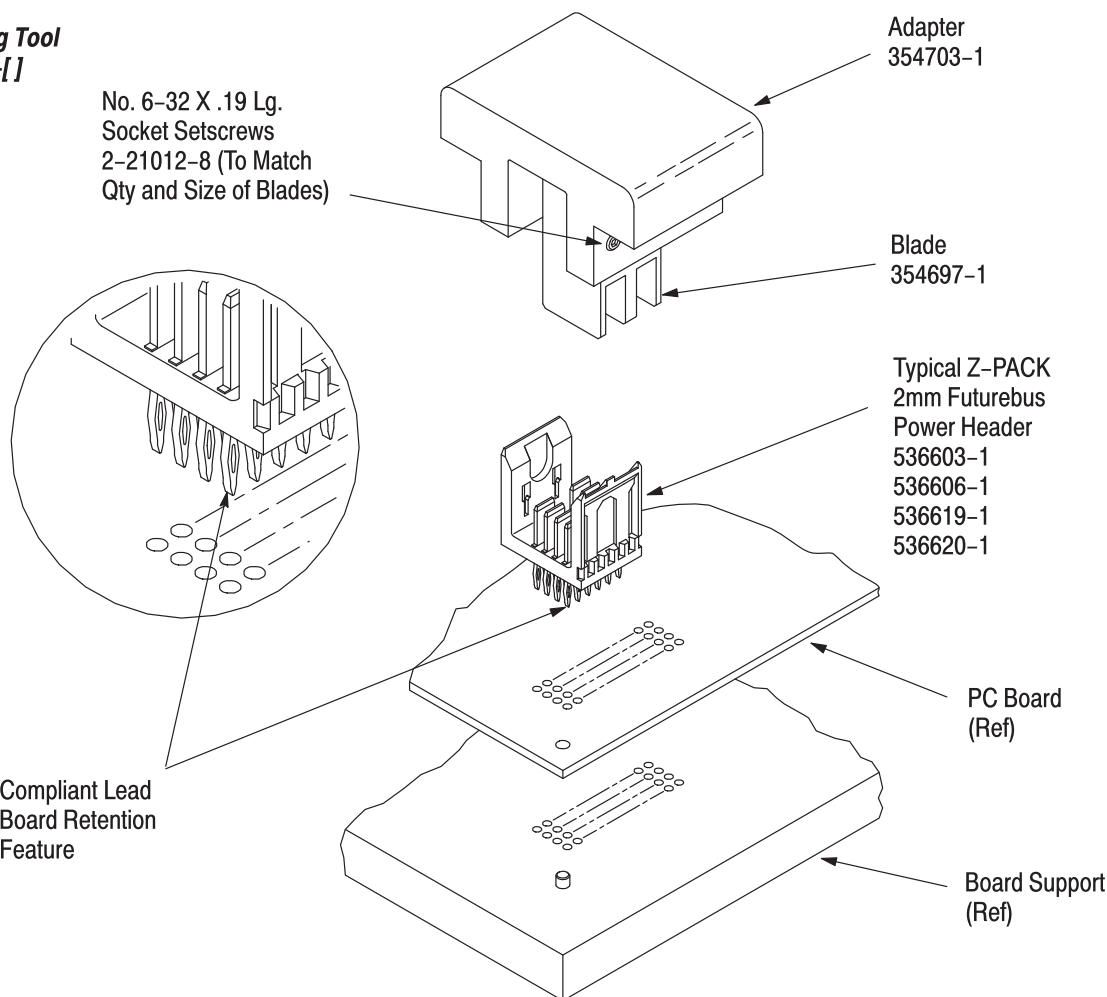

Figure 1
- Changed replacement part reference in Section 7 from Figure 1 to Figure 2.